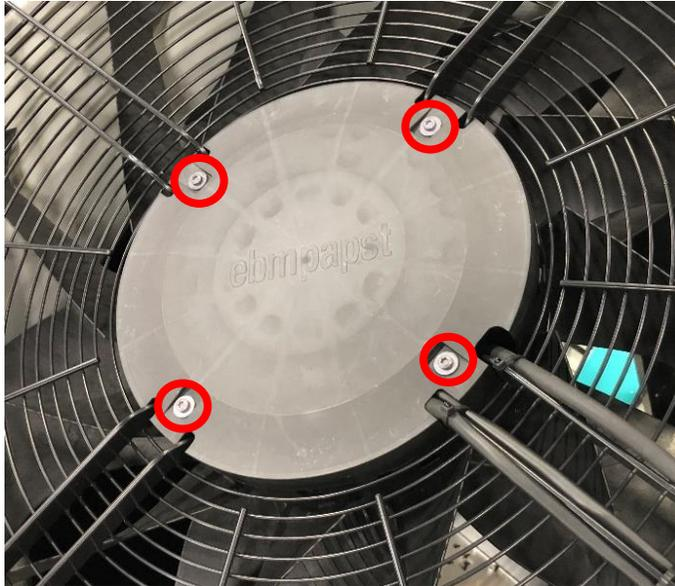
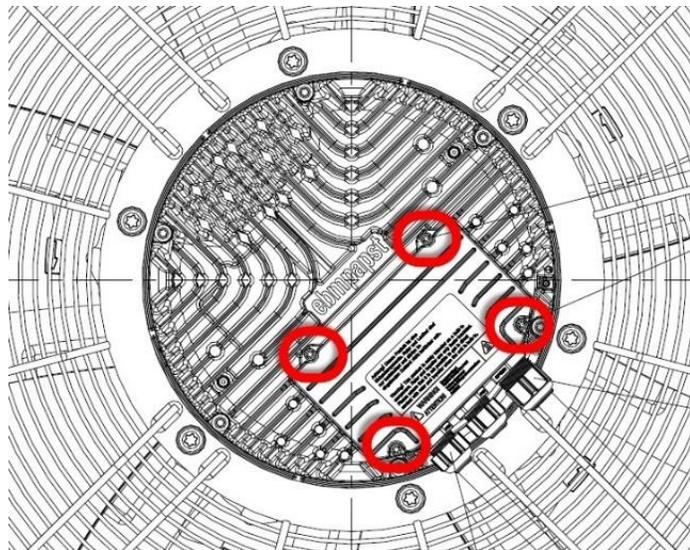

Figure 15. Fan Cover Plate
Figure 16. Terminal Box Cover
2. Remove the fan cover plate by removing the four fasteners as shown in **Figure 15**.
3. Remove the terminal box cover by removing the four fasteners as shown in **Figure 16**.
10. Remove the fan cover plate and terminal box cover shown in **Figure 15** and **Figure 16** respectively. Remove caps from the cable glands.
- Inspect the terminal box cover gasket and reinstall the terminal box cover with a tightening torque of 3.5 ± 0.5 Nm as shown in **Figure 16**. Proper installation of the terminal box cover is critical to maintain weatherproof rating of the unit. If the above procedure is not followed, damage due to water ingress will occur.
- Reinstall the fan cover plate as shown in **Figure 15**.